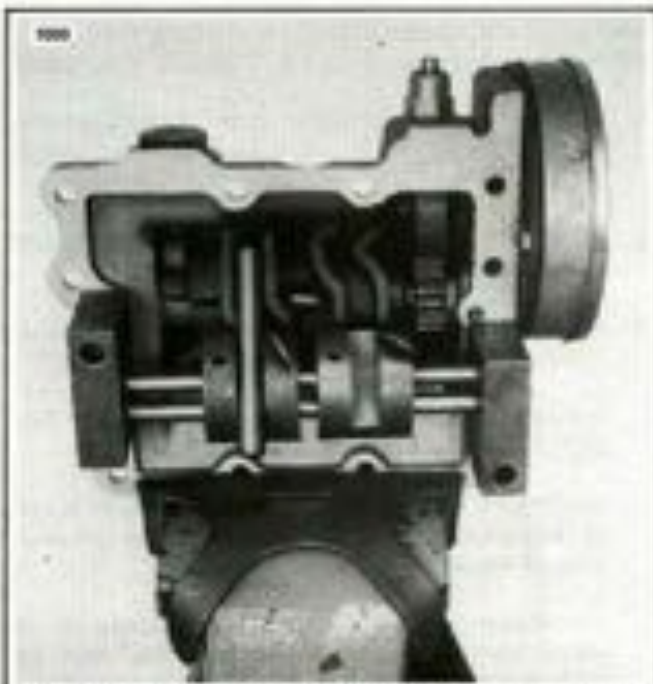

Figure 7-20. Installing Gauge on Drum Shifter Cover
2. See Figure 7-20. Place the FORK SHIFTER GAUGE, Part No. HD-96384-39, on the cover as shown. With